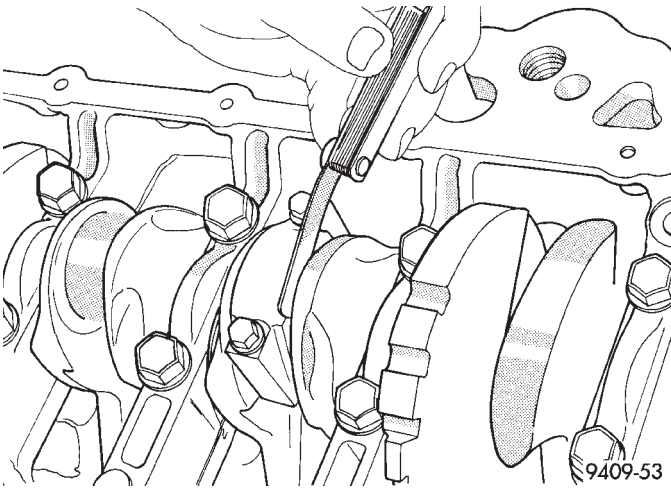

Fig. 86 Checking Connecting Rod Side Clearance
(10) Using a feeler gauge, check connecting rod side clearance (Fig. 86).